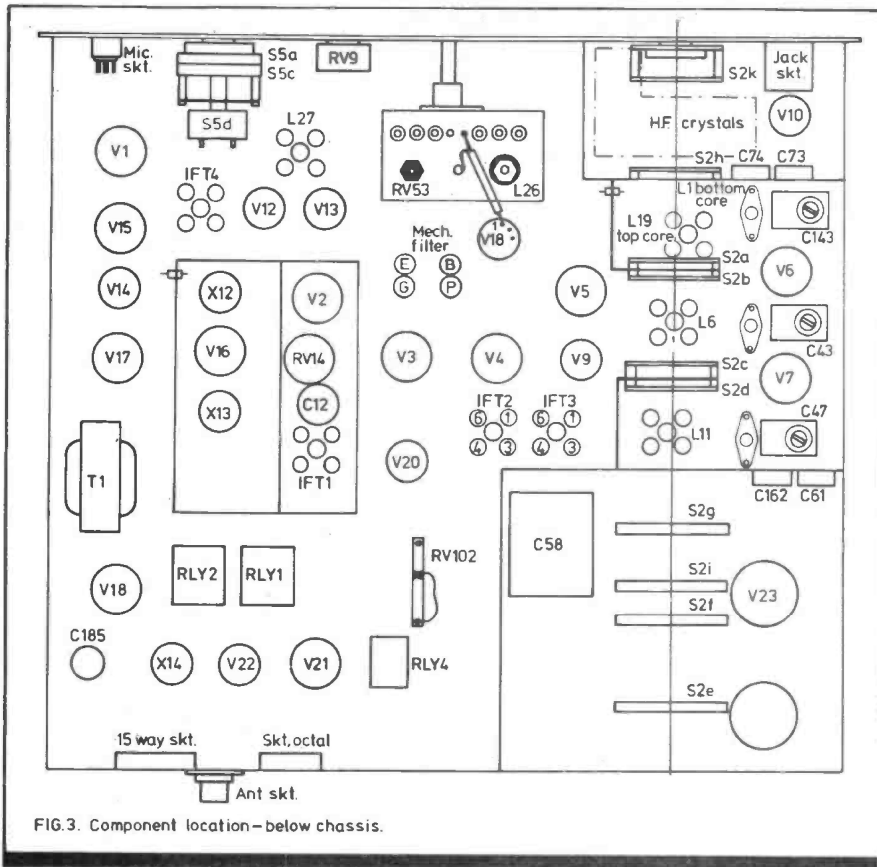

FIG. 3. Component location—below chassis.
3. Reset VFO to 200. Adjust the core of L26, which is on the lower side of the VFO, for zero beat with the calibrator signal. See Fig. 3 for the position of L26.
5. Set VFO to 100. Switch IRT off and adjust RV53 for zero beat with the calibrator signal. See Fig. 3 for position of RV53.
2. Connect the swamping tool between pin 4 of IFT2 and chassis (see Fig. 3 for location of IFT2). Adjust lower core of IFT2 for peak on S-meter, reducing input signal if necessary to keep reading below S5. **SWITCH OFF KW2000.**